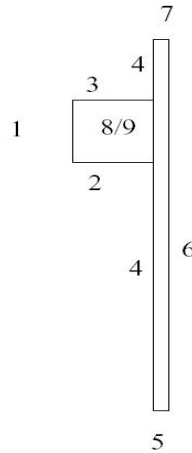

Figure I.3: Colors of the boundary faces
**Color definition:** see figure I.3. To specify boundary conditions on the boundary faces of the mesh, the latter have to be identified. It is commonly done by assigning an integer to each of them, characteristic of the boundary region they belong to. This integer is referred to as "color" or "reference".
Figure I.3 shows the colors used for boundary conditions and table I.1 defines the correspondance between the colors and the type of boundary condition to use.